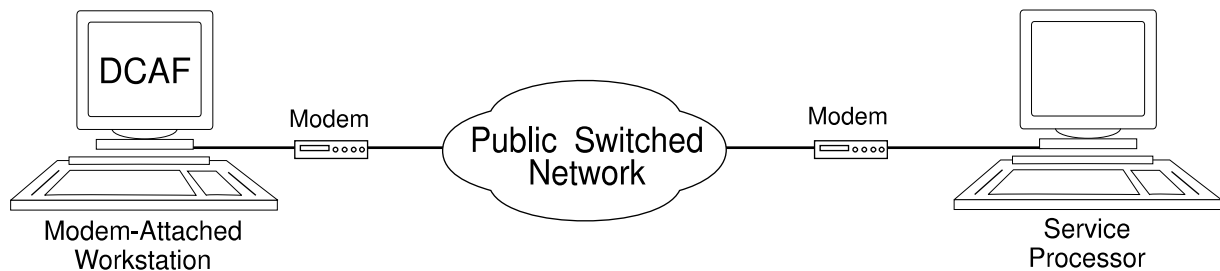

Figure 6-1. Modem-Attached Configuration
- Configure a DCAF session for controlling the service processor (see Figure 6-1).